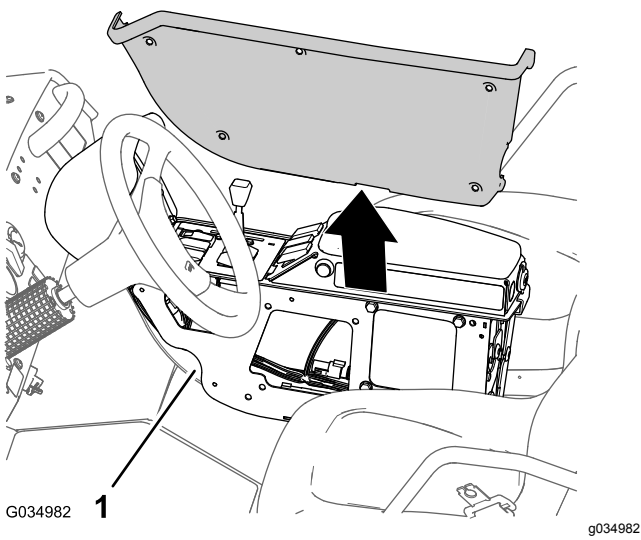

Figure 113
3. Remove the cover from the center console (Figure 113).